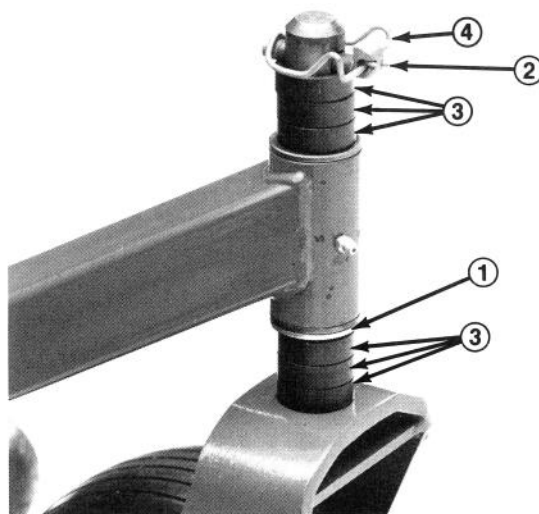

Figure 19
2. Squeeze the back of the wire spring and raise it on lynch pin. Pull pin out of caster shaft. Slide spacers onto the caster shaft to get desired height-of-cut (Fig. 19 and 20). Then slide thrust washer (Fig. 19) onto caster shaft (front only).
3. Push caster shaft through caster arm. Slide any remaining spacers onto shaft (Fig. 19 and 20). Install lynch pin to retain parts in place. Always retain the same number of spacers on each caster when adjusting height-of-cut.
IMPORTANT: Thrust washer — not the spacers — must contact bottom of front carrier frame tube. (Fig 19).